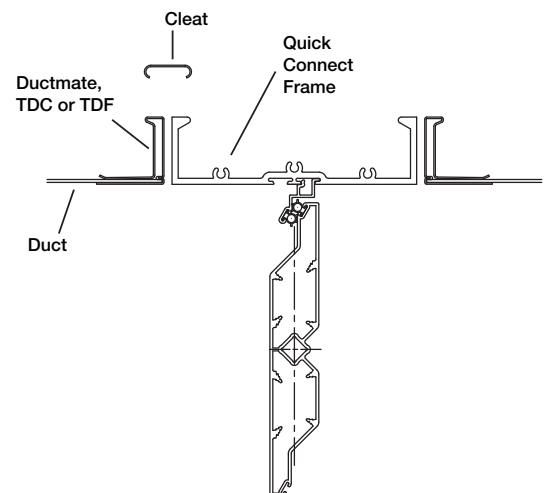

Figure 6
- 4) Install the metal cleat (**Figure 6**) or #10 TEK screw with the following recommend spacing: